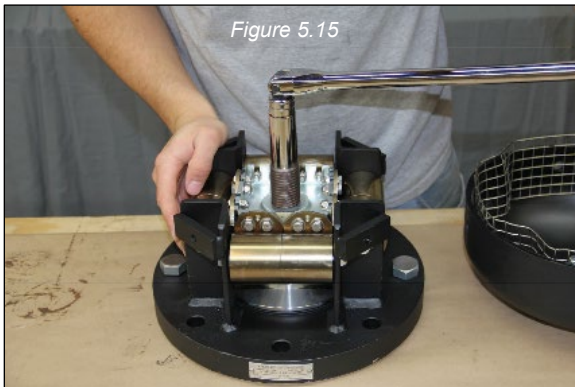

Figure 5.15
7. Place the valve on a clean flat surface, then clamp or bolt the valve down to facilitate initial positioning of the adjustment screw (*Figure 5.15 & 5.16*).